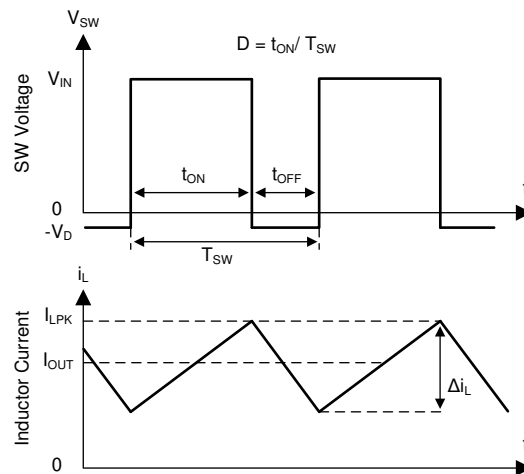

图 6. SW Node and Inductor Current Waveforms in Continuous Conduction Mode
The following operation description of the LM76005 refers to the Functional Block Diagram and to the waveforms in Figure 6. The LM76005 supplies a regulated output voltage by turning on the internal high-side (HS) and low-side (LS) NMOS switches with varying duty cycle (D). During high-side switch on-time, t_{ON} , the SW pin voltage V_{SW} swings up to approximately V_{IN} , and the inductor current, i_L , increases with linear slope. The HS switch is off by the control logic. During the HS switch off-time, t_{OFF} , the LS switch is turned on. Inductor current discharges through the LS switch, which forces the V_{SW} to swing below ground by the voltage drop across the LS switch. The regulator loop adjusts the duty cycle to maintain a constant output voltage. The control parameter of a buck converter is defined as duty cycle $D = t_{ON} / T_{SW}$. In an ideal buck converter, where losses are ignored, D is proportional to the output voltage and inversely proportional to the input voltage: $D = V_{OUT} / V_{IN}$.